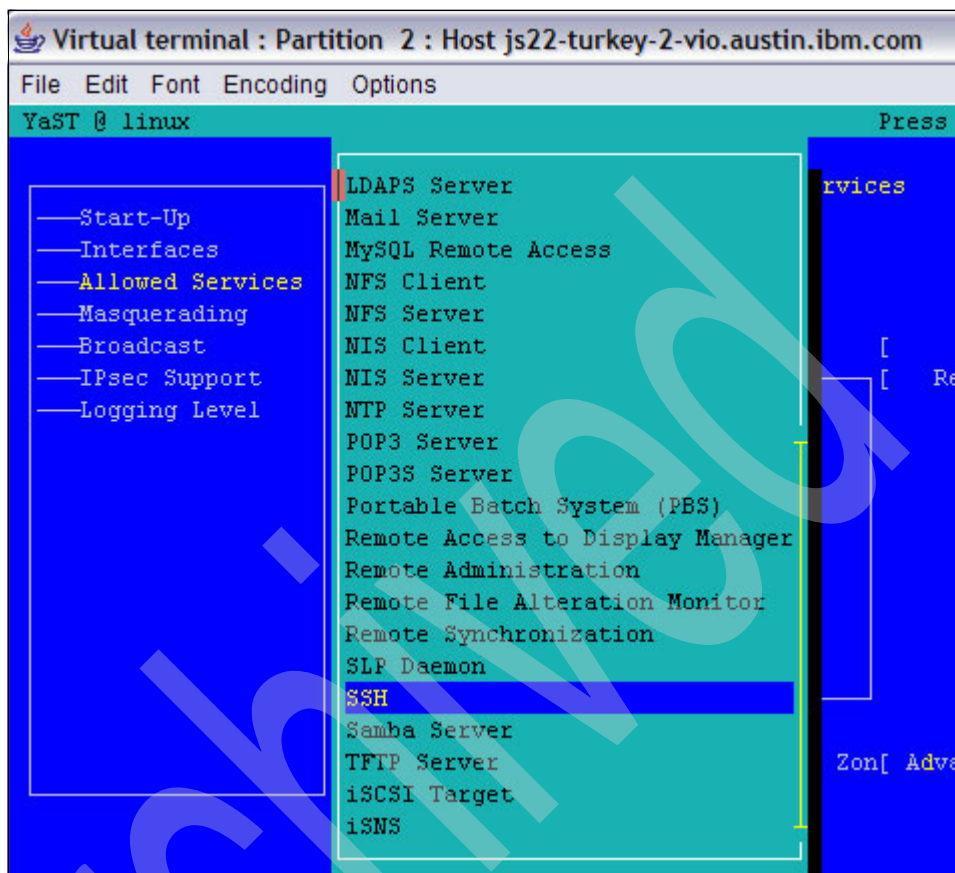

Figure 7-17 Services to allow list and selecting SSH service
- c. Press the Tab key to highlight **DHCP Client** in the Service to Allow section, then press the down arrow key to bring up a new window. Find and highlight **SSH** in the new window, as shown in Figure 7-17 on page 323. Finally, press Enter to confirm.